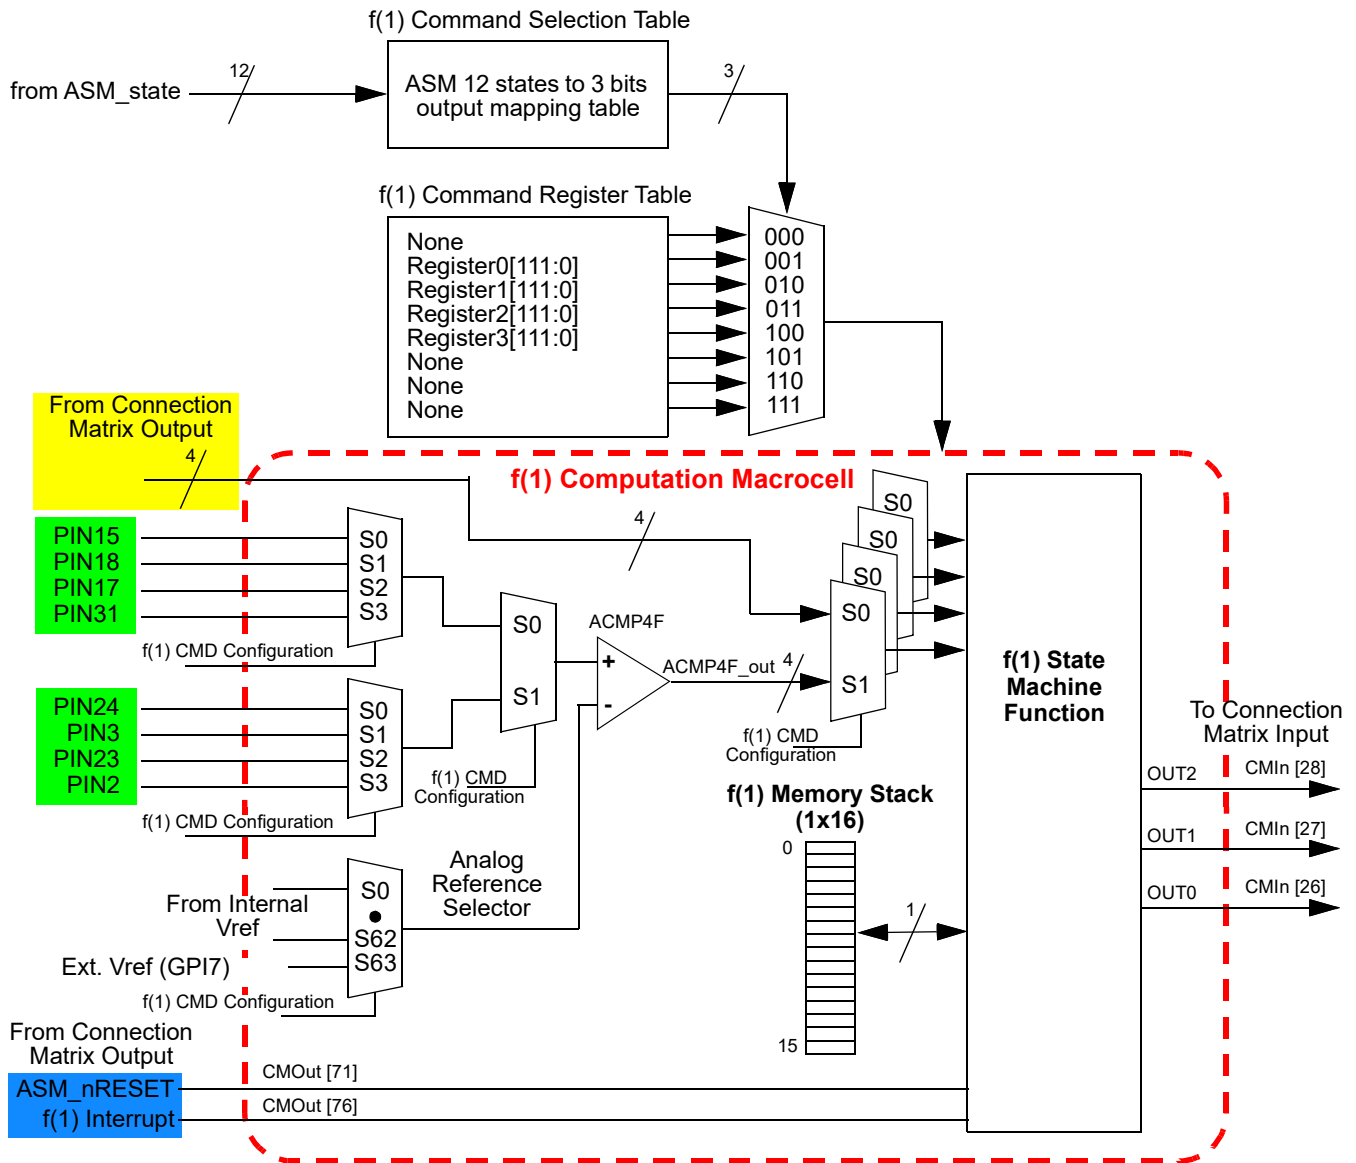

Figure 126: f(1) Computation Macrocell Input Signals
17.3 F(1) COMPUTATION MACROCELL INPUT SIGNALS
The f(1) Computation Macrocell has 6 digital input signals, ASM\_nReset, f1\_Interrupt, and four inputs from Connection Matrix outputs. An active signal on either of the first 2 inputs will immediately halt any command execution for the f(1) Computation Macrocell, and will immediately relinquish control back to the ASM macrocell. The ASM\_nReset is a level sensitive signal, and active low. The f1\_Interrupt is a level sensitive signal, and active high. These signals are shown in Figure 126, highlighted in blue. Also there are 4 digital inputs from the Connection Matrix, which can be routed to any Connection Matrix outputs from the f(1) Commands. These signals are shown on Figure 126, highlighted in yellow.